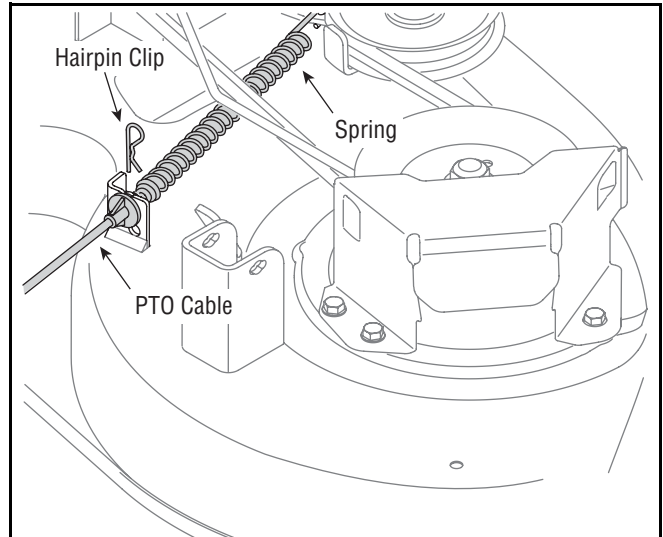

Figure 21
5. Looking at the cutting deck from the left side of the tractor, locate the deck support pin on the rear left side of the deck. See Figure 21.
11. For models with manual pto, remove the hairpin clip that secures the PTO cable to the rear of the cutting deck. See Figure 21. Remove the PTO cable and accompanying spring from the cutting deck.